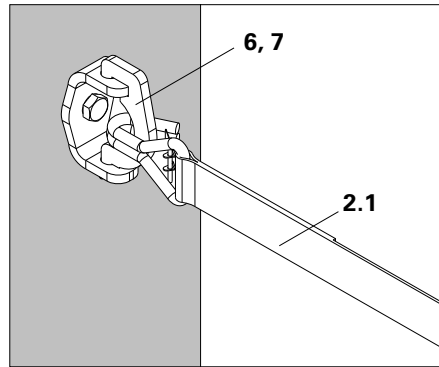

Fig. A2.10a
1. Fix Wall Fixing PWF (6) with anchor bolts (7).
2. Attach Tension Belt PTB (2.1) to Wall Fixing PWF. (Fig. A2.10a)